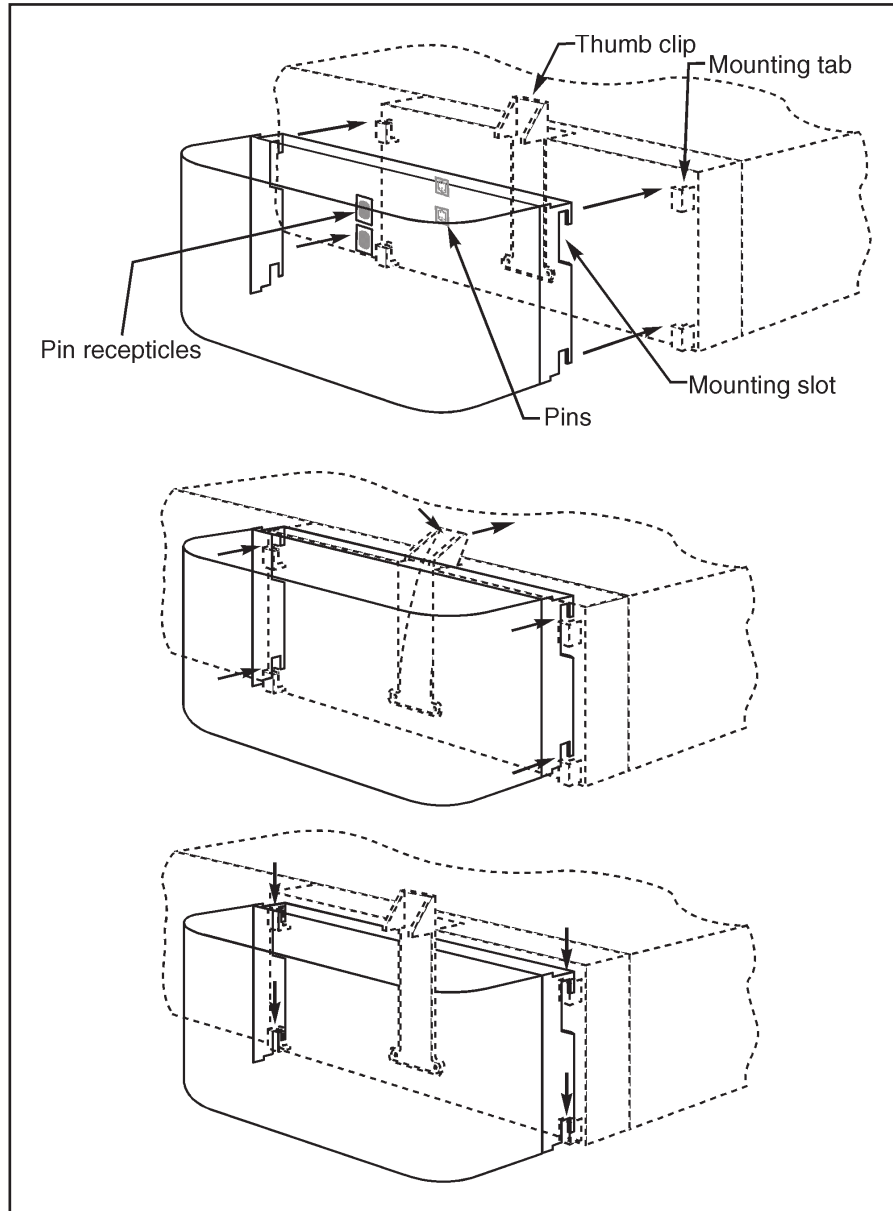

Figure 1 Attaching the Batteries
Referring to Figure 1, attach the fully charged batteries to the NaI InSpector's battery ports.
2. As shown in Figure 1, place the battery on the battery port so that its mounting slots are slightly above the port's mounting tabs, then press in and down to engage the battery.